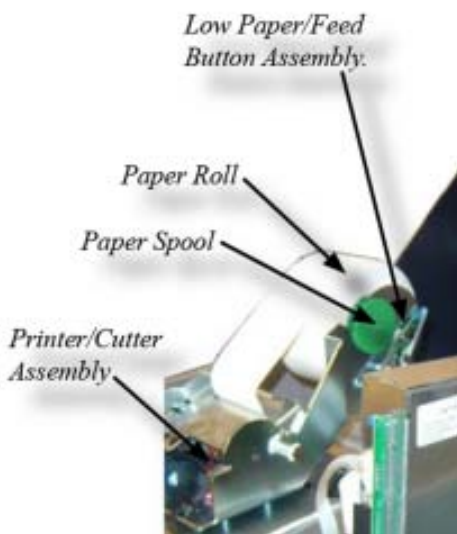

Figure 6-1. Printer assembly.
3. Use the receipt printer feed button (as shown in Figure 6-1) to feed the paper through the paper path until all paper comes out the front of the printer.